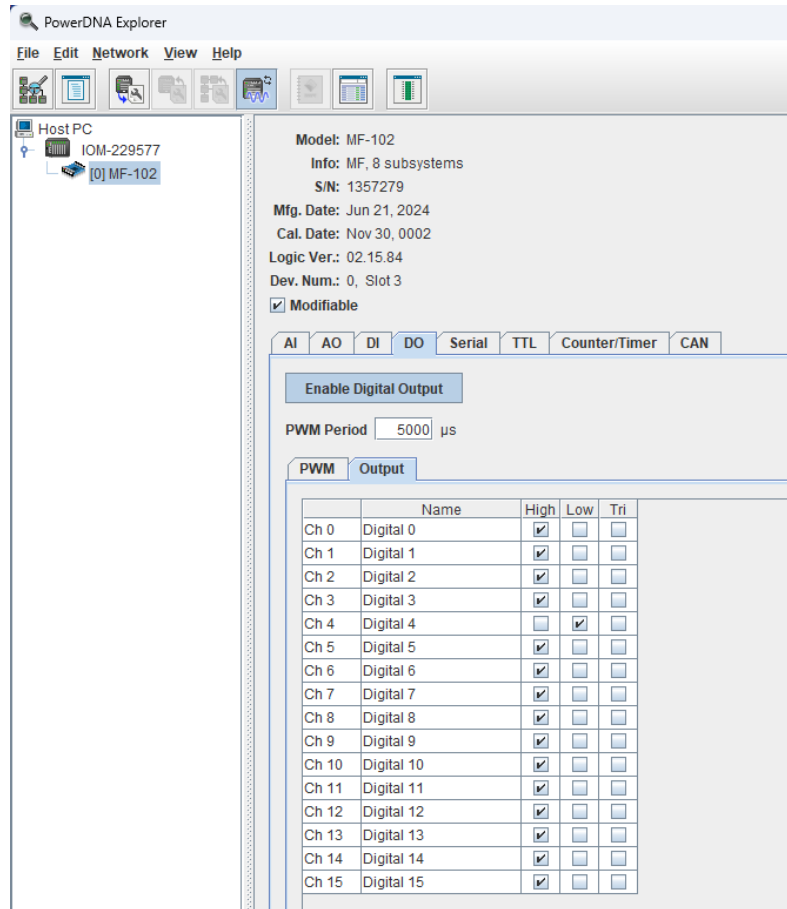

Figure 3-7 PowerDNA Explorer DO Tab, Output Subtab
3.5.2 Write to Digital Output The DO Output subtab (**Figure 3-7**) contains the following columns: